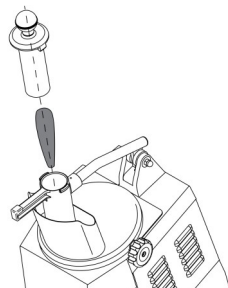

Fig 11 - Use pestle to feed product through smaller feed chute
- Turn Pestle clockwise until it is free (1/4 turn) and remove it from pusher handle (Fig 11). Place smaller produce in small chute. Reinsert Pestle and apply light pressure. Turn machine "ON" to process product.